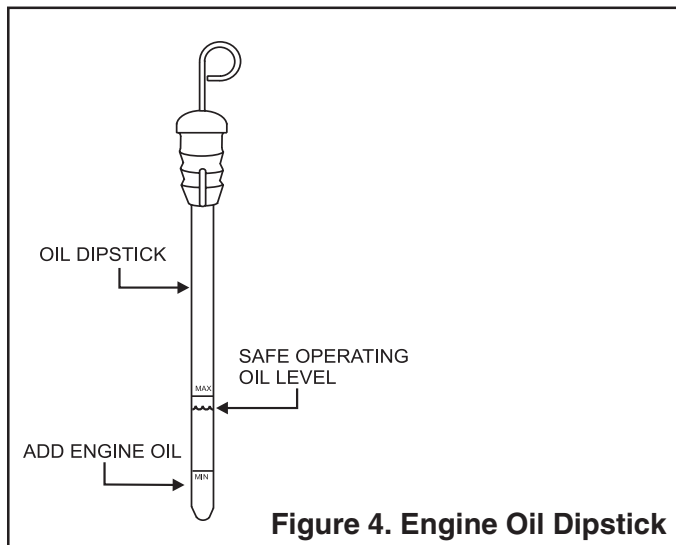

Figure 4. Engine Oil Dipstick
2. Determine if engine oil is low (figure 4), add correct amount of engine oil to bring oil level to a normal safe level.